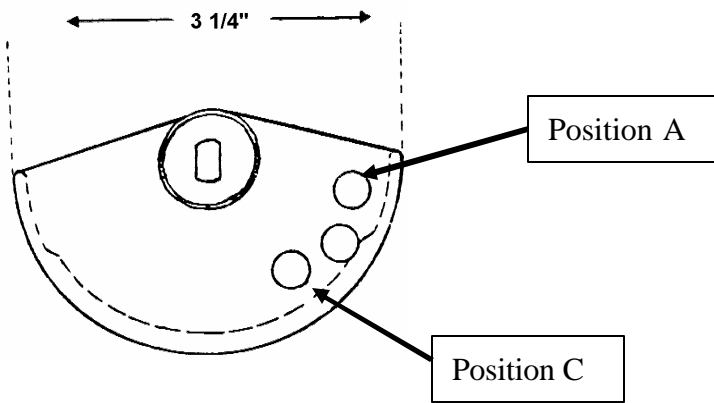

Figure 5
9. Place rod with red tube in hole "A" of rotor. (See figure 5, page 2.)
10. Place rod with black tube in hole "C" of rotor. (See figure 5, page 2.)